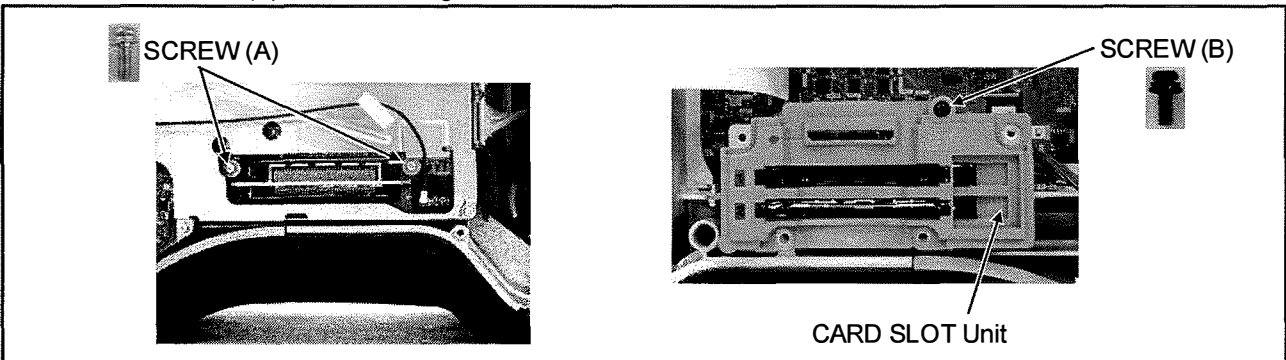

Figure 6-1
2. Unscrew the 2 screws (A) as shown in figure 6-1.
4. Unscrew a screw (B) as shown in figure 6-1 and remove the CARD SLOT Unit.